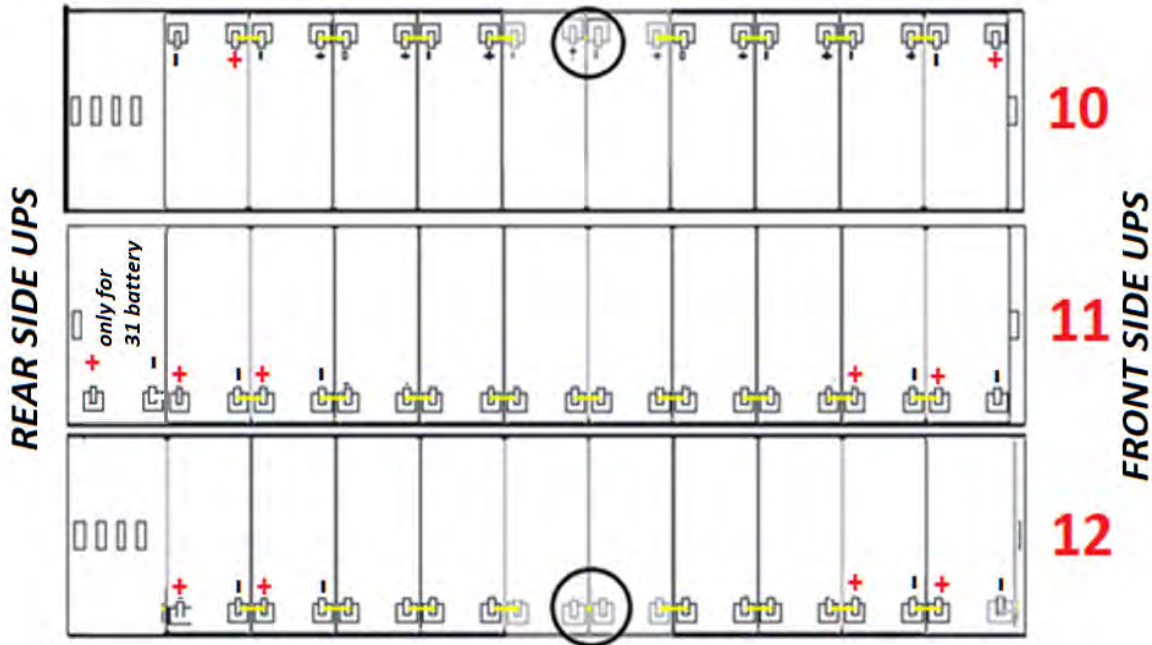

Figure 18 - View from above Level No.4
11) On level no.4, insert trays no 10-11-12 in compliance with the position as demonstrated in Figure 18.